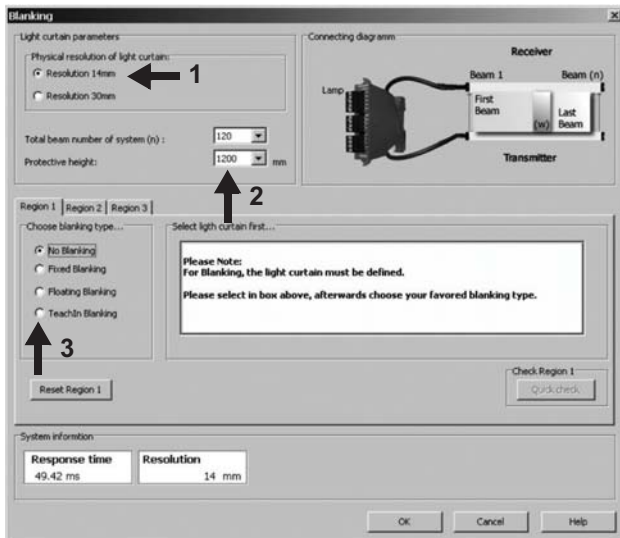

Figure 73: Blanking window
The first step is to define the resolution (1 Figure 73) and the number of beams or the protective field length of the Micro 400 light curtain (2). The length of the protective field as well as the physical resolution can be found on the specification label of the light curtain being configured.
Teach-In blanking is available in the Basic Configuration mode (chapter 5.4.1.2), and does not need to be configured. However if desired this mode can also be configured (3 – Figure 73).